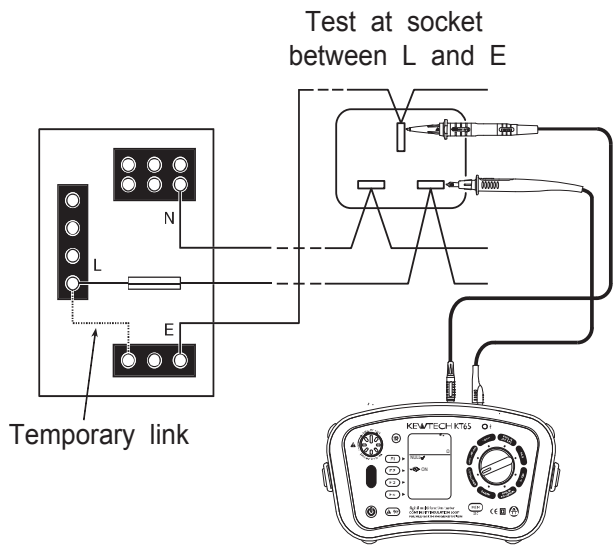

Fig. 14
- 7 Connect the test leads to the circuit whose resistance is required (see Fig.14 for a typical connection arrangement), having first made sure **that the circuit is not live**. Note that "Live Circuit" warning will be displayed on the LCD if the circuit is live - but check first anyway!